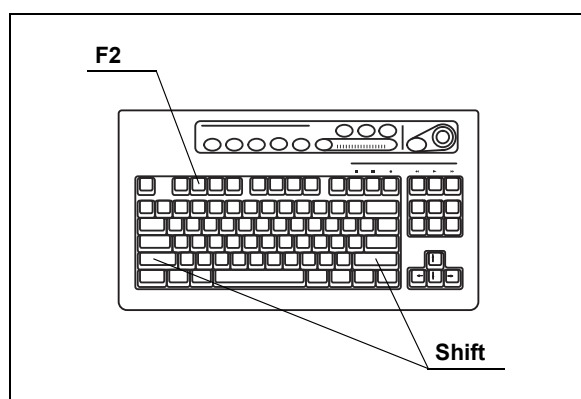
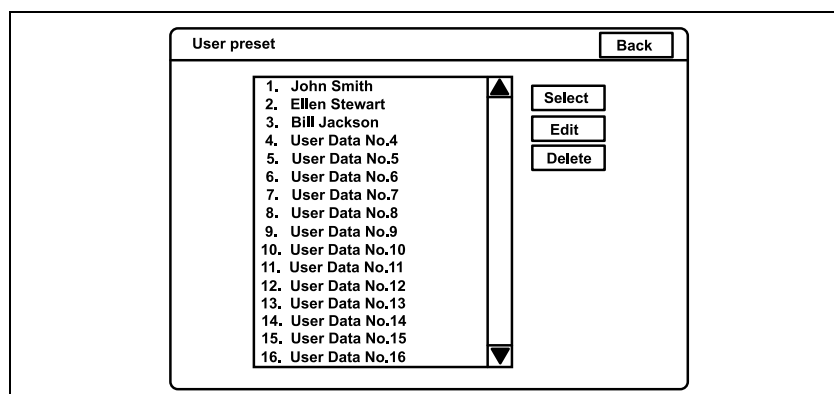
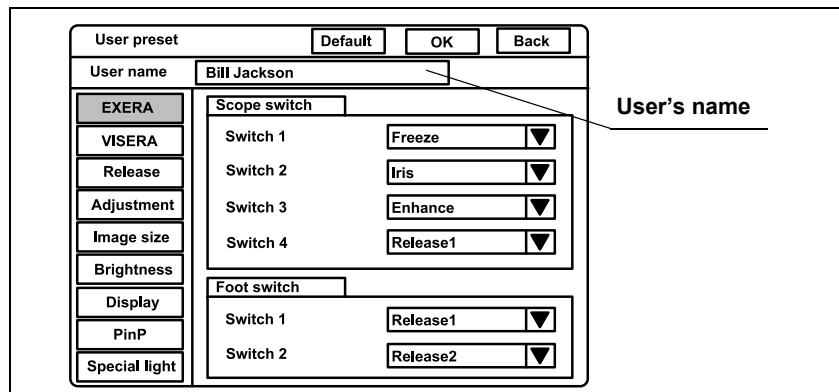

Figure 9.12
Figure 9.13
Figure 9.14
1. Press the “Shift” and “F2” key together (see Figure 9.12). The “User preset” menu appears on the monitor (see Figure 9.13).
3. Click "EDIT" on the right side of the screen (see Figure 9.13). The edit screen of the user preset menu appears (see Figure 9.14).